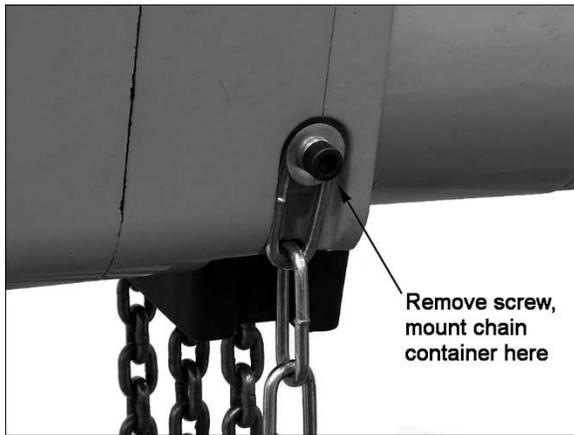
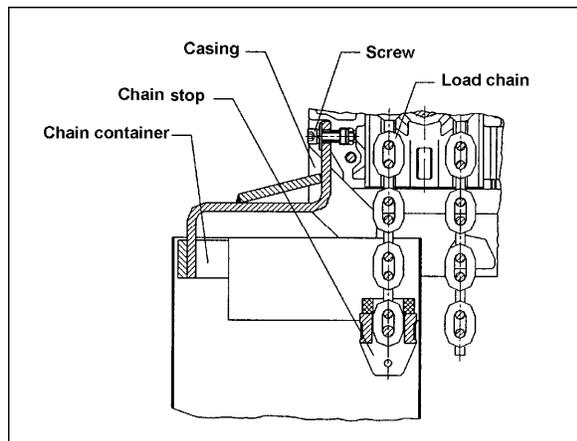

Figure 6
Figure 7
7. Remove the screw and washer holding the end chain to the hoist (Figure 6). Mount the bracket of the chain container in that location as shown in Figure 7.
8. Put the chain stop into the container (Figure 7), and operate the hoist to bring the load hook up until the upper limit switch is tripped.